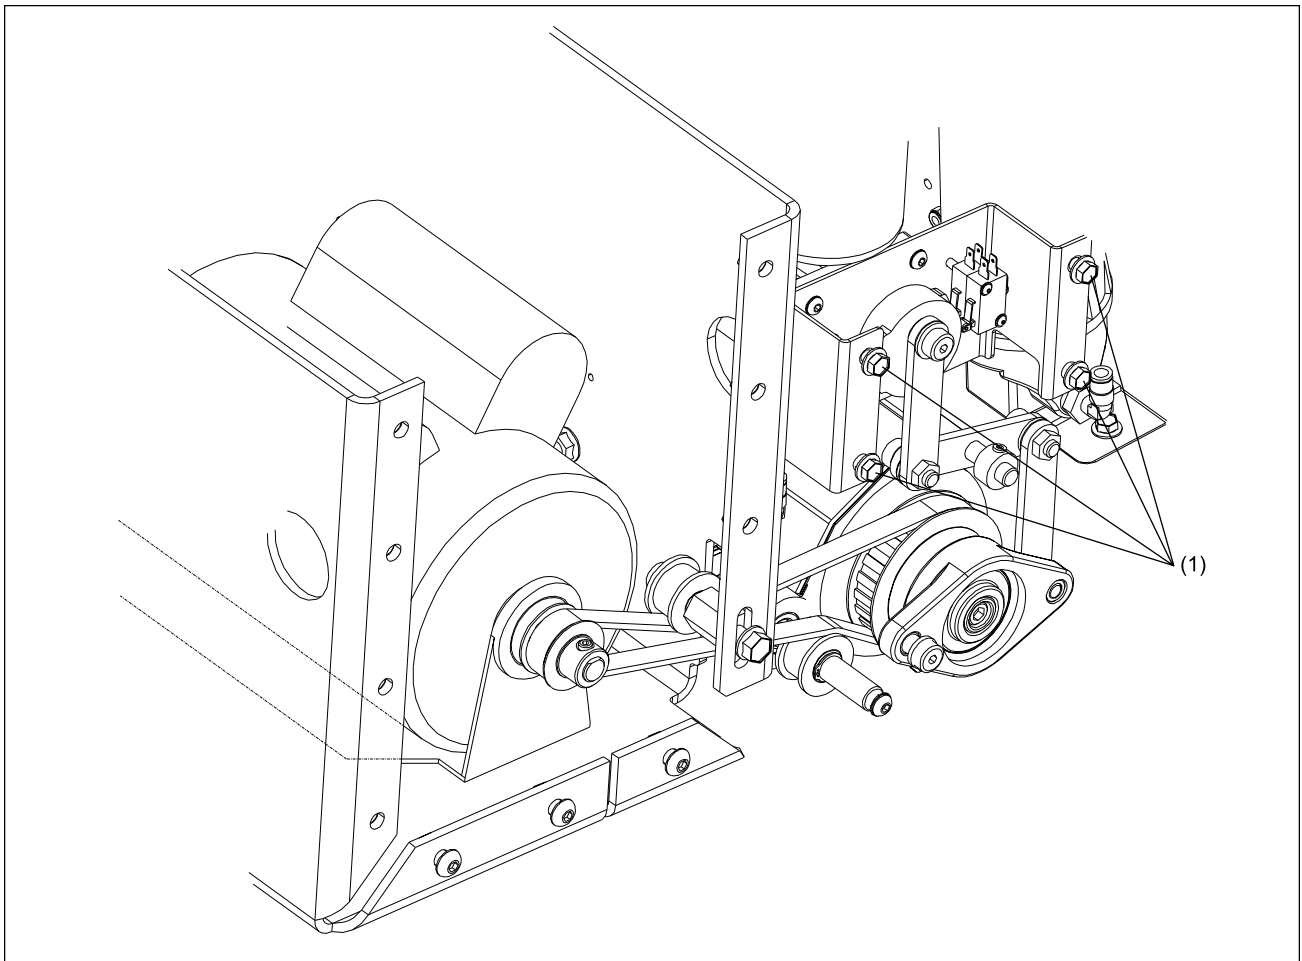

Figure 5-17. Adjusting the Buffer Brush
5. Loosen the four (4) bolts that mount the brush lifting motor assembly, to the 7-pin side of the machine, using a 3/8" open end wrench. Refer to Figure 5-17.